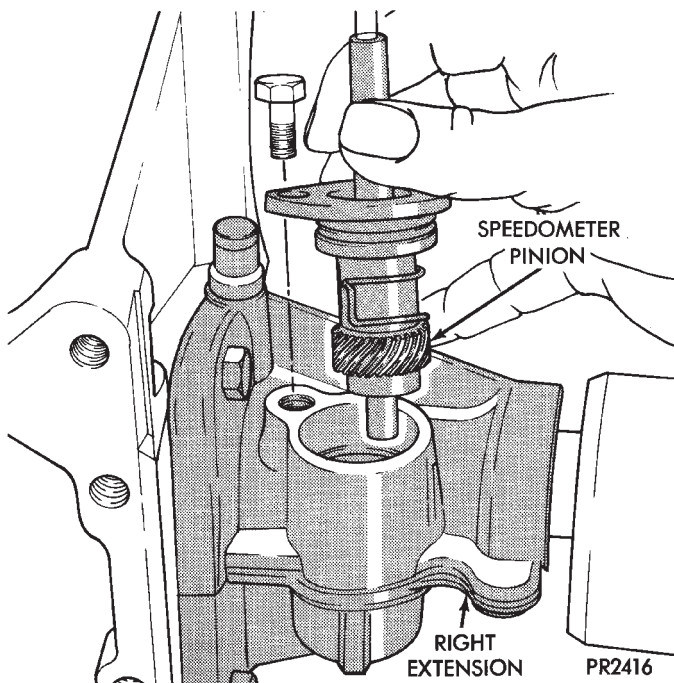

Fig. 4 Remove Speedometer Pinion (for Right Driveshaft)
(1) Before performing removal of the vehicles right side driveshaft assembly. The speedometer pinion must be removed from the transaxle assembly (Fig. 4).